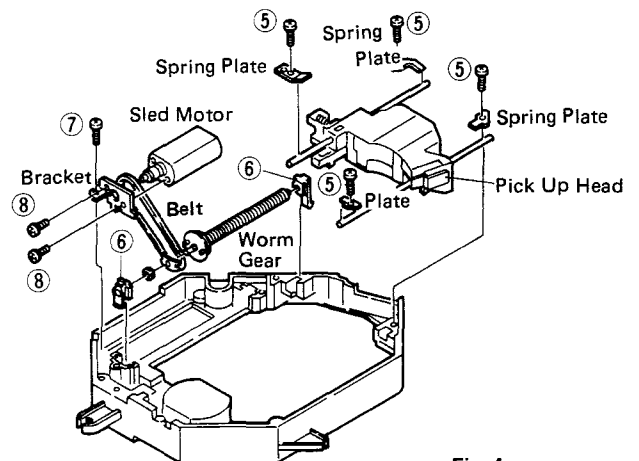

Fig. 4
Remove 4 screws (⑤) in Fig. 4.
- Remove 2 bearings (⑥) which hold worm gear in Fig. 4.
- Remove screw (⑦) which hold sled motor bracket in Fig. 4.
- Remove 2 screws (⑧) which hold sled motor in Fig. 4.